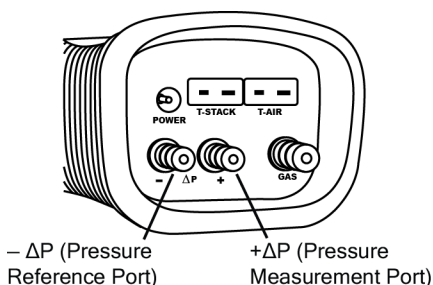

Figure 5-13. Draft/Pressure Measurement Hose Connections
- Reconnect any hoses. When measuring draft, simply leave the  $-\Delta P$  port open to the atmosphere and connect the probe's draft hose to the  $+\Delta P$  port (see Figure 5-13).